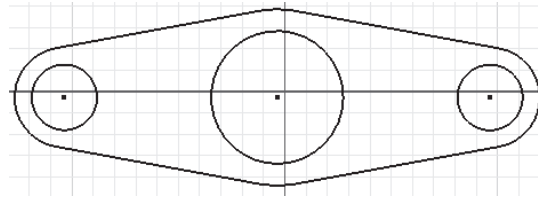

Figure 3-62 Sketch after creating the outer loop and the three circles
- Draw the inner circles and add the required constraints. Dimension the complete sketch, refer to Figure 3-62.
constraint to the smaller circles. The sketch, after drawing the circles and applying the **Equal** constraint, should look similar to the one shown in Figure 3-62.